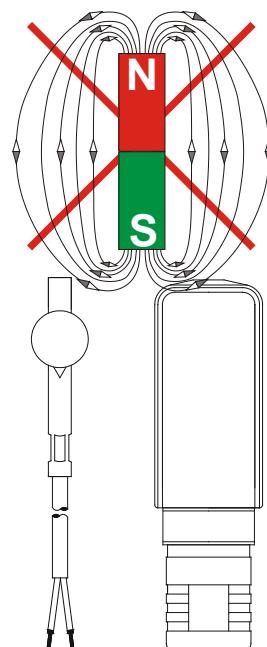

Fig. 4
- ↳ Make sure that there are no external magnetic fields in the immediate vicinity of the flow switch, since these can impair device functioning (→ Fig. 4).